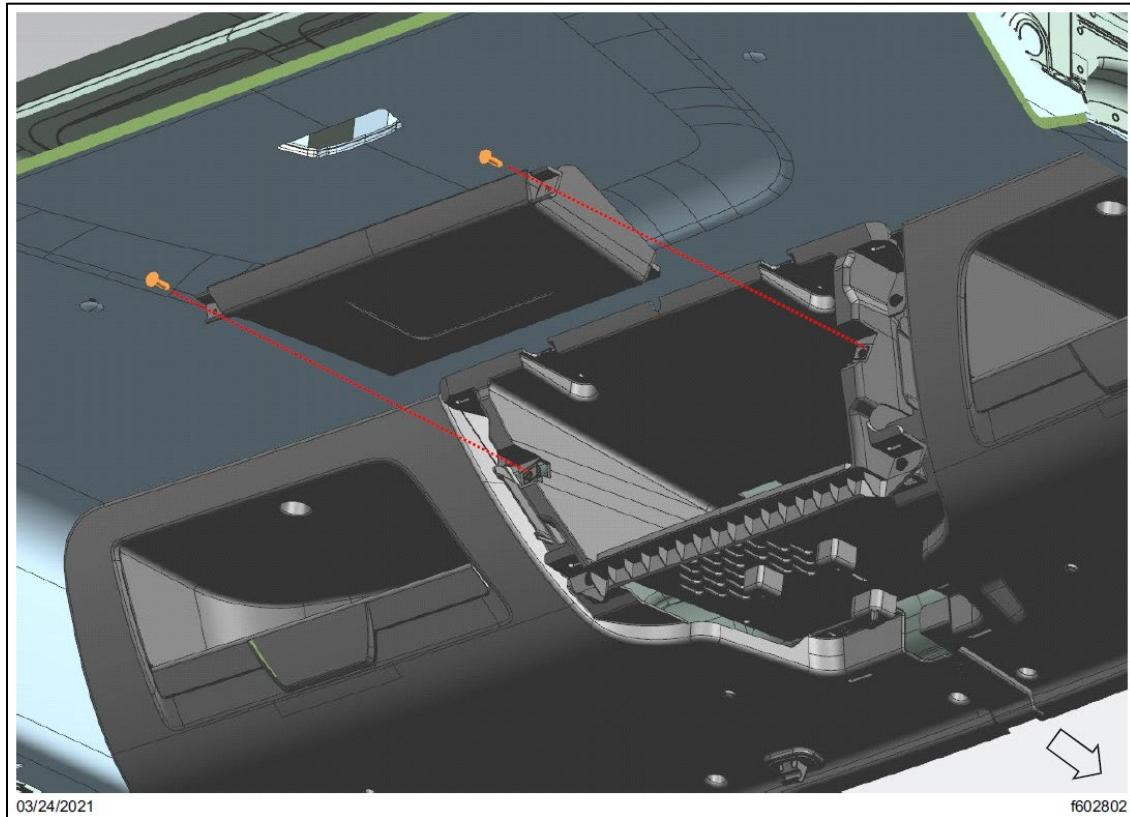

Fig. 16, Center Shelf Removal
2.3. Remove the two fasteners that attach the center shelf to the center storage bin, and then remove the center shelf from the vehicle. See Fig. 16.